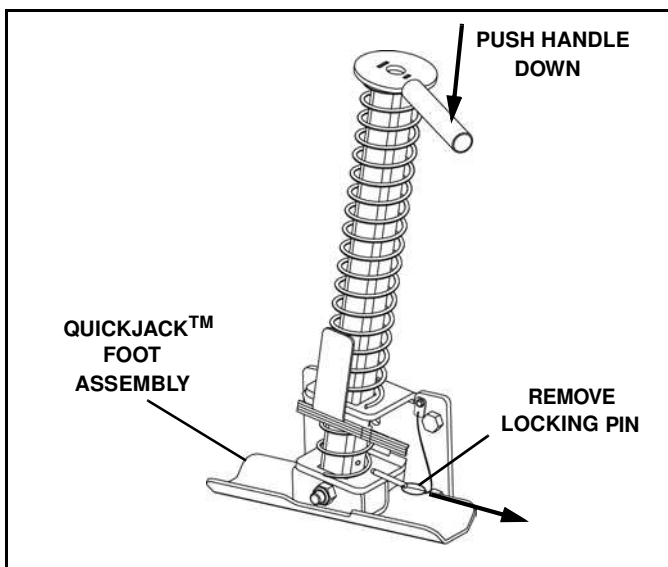

Figure 1-33
31. Raise the rear of the plow assembly, remove the QuickJack™ locking pin and push the handle down to fully lower the foot assembly. (See Figure 1-33).